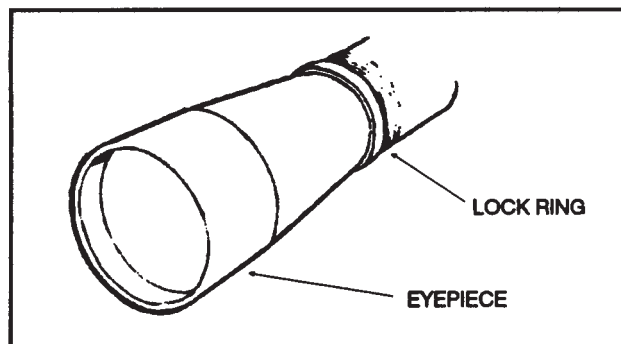

Figure 2-19. Eyeiece adjustment.
(4) *Eyeiece adjustment.* The eyepiece (Figure 2-19) is adjusted by turning it in or out of the barrel until the reticle appears crisp and clear. Focusing the eyepiece should be done after mounting the scope. The sniper grasps the eyepiece and backs it away from the lock ring. He does not attempt to loosen the lock ring first; it loosens automatically when he backs away from the eyepiece (no tools needed). The eyepiece is turned several turns to move it at least 1/8 inch. It takes this much change to achieve any measurable effect on the focus. The sniper looks through the scope at the sky or a blank wall and checks to see if the reticle appears sharp and crisp. He locks the lock ring after achieving reticle clarity.